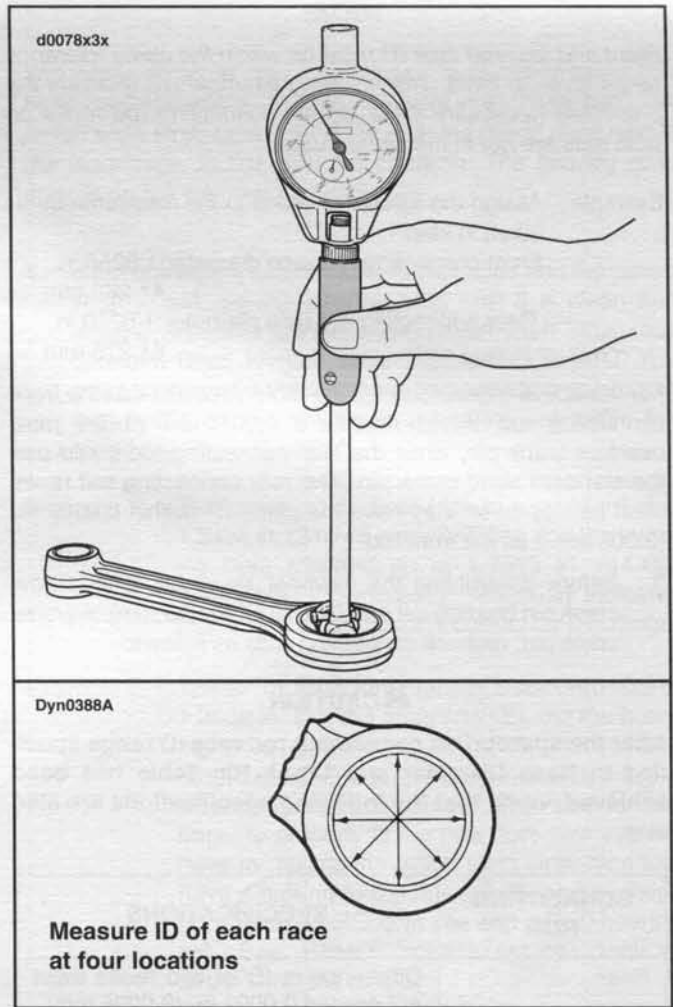

Figure 3-79. Measuring Connecting Rod Race Inside Diameters
1. See Figure 3-79. To properly fit the rod bearings, measure inside diameter (ID) of lapped connecting rod races with a dial bore gauge that has 0.0001 in. (0.0025 mm) graduations. Measure the ID at four places as shown. Record the four measurements.